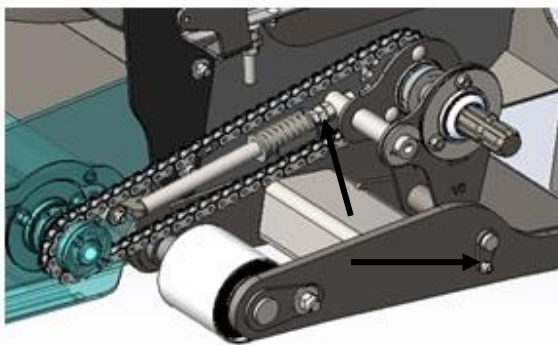

Figure 50
1. Loosen the jam nut on the spring tension. Figure 50
4. To remove the idler assembly, remove the bolt that secures the lower pivot pin in the idler assembly. Figure 50